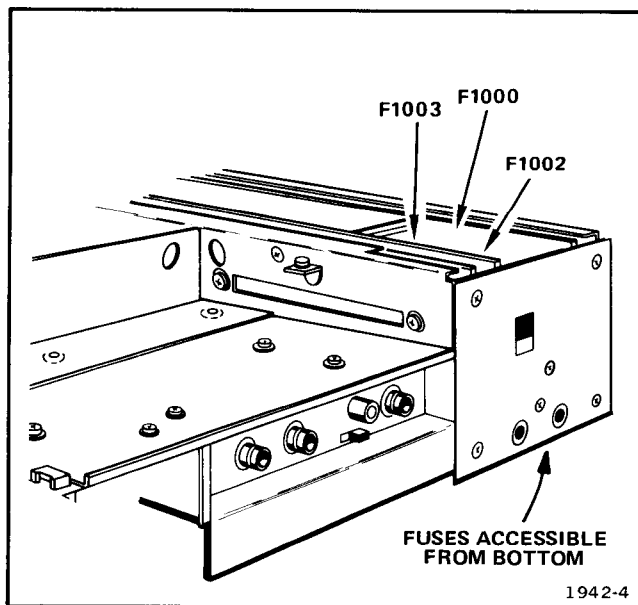

Fig. 2-3. Fuse Location.
7. The fuses are located on the bottom of the instrument near the rear (see Fig. 2-3).